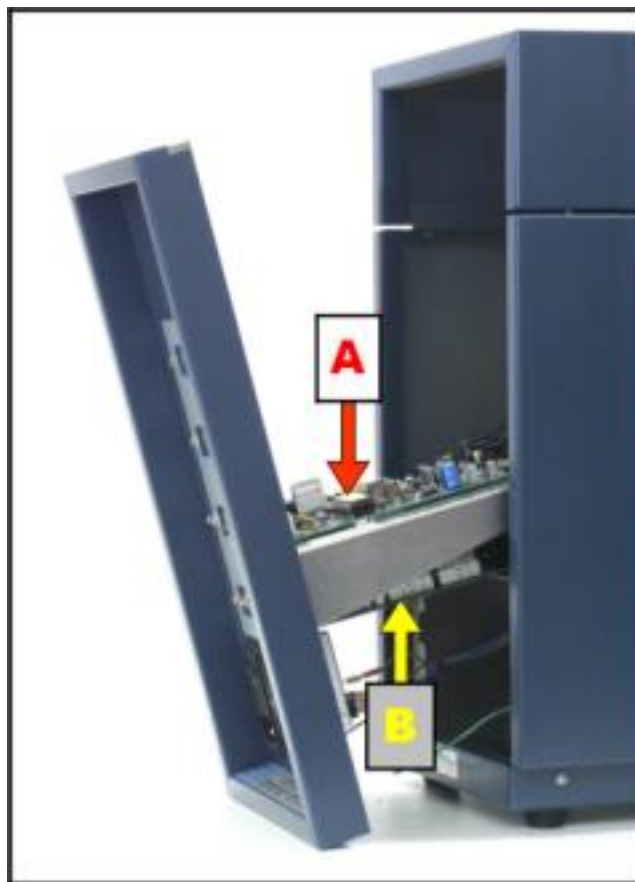

Fig. 4. Detector with connector panel pulled backwards. (A) sensor board and (B): control board.
2. Subsequently, pull the connector panel backwards as far as depicted in Fig. 4 (constrained by the length of the connected cables). The control board can rest on the isolated casing of the power supply without any problem.